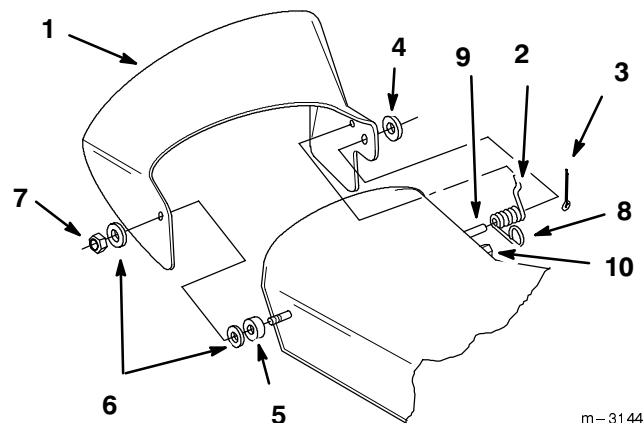

Figure 3
1. Remove the discharge chute from the mower (Fig. 3).